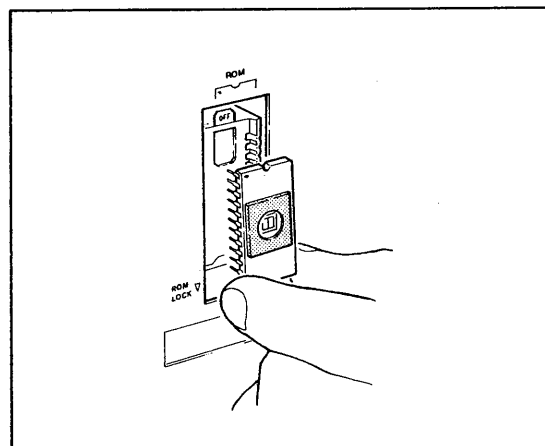

Figure 6-3-8. Removing ROM.
- d) Hold the ROM in the fingers and pull it out of the socket, taking care not to deform the pins. (Figure 6-3-8).